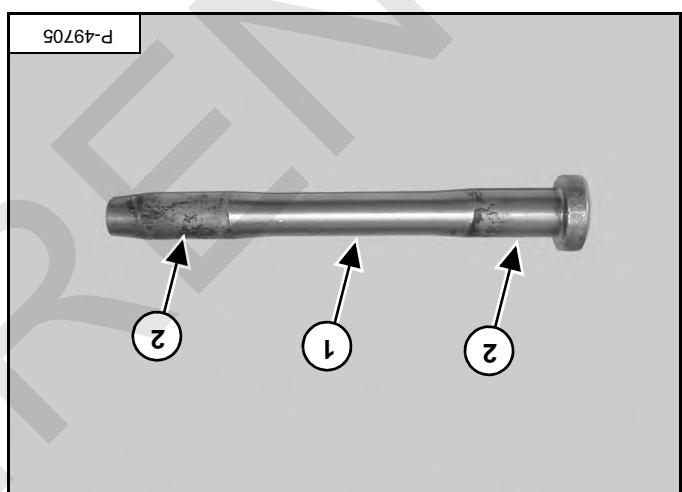

Figure 72
Inspect the pin (item 1) [Figure 72] for wear or damage. Replace the pin as needed. Apply a light coat of grease to the ends of the pin (item 2) [Figure 72].